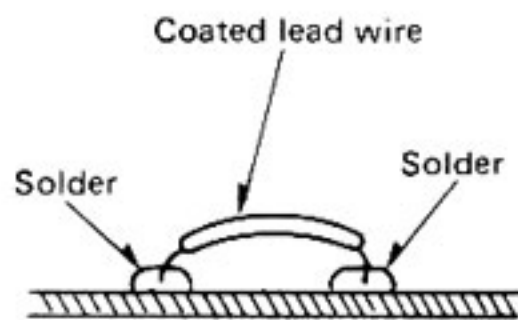

Fig. 20
1. If the chip jumper is removed, connect a coated lead wire to the part. (See Fig. 20).